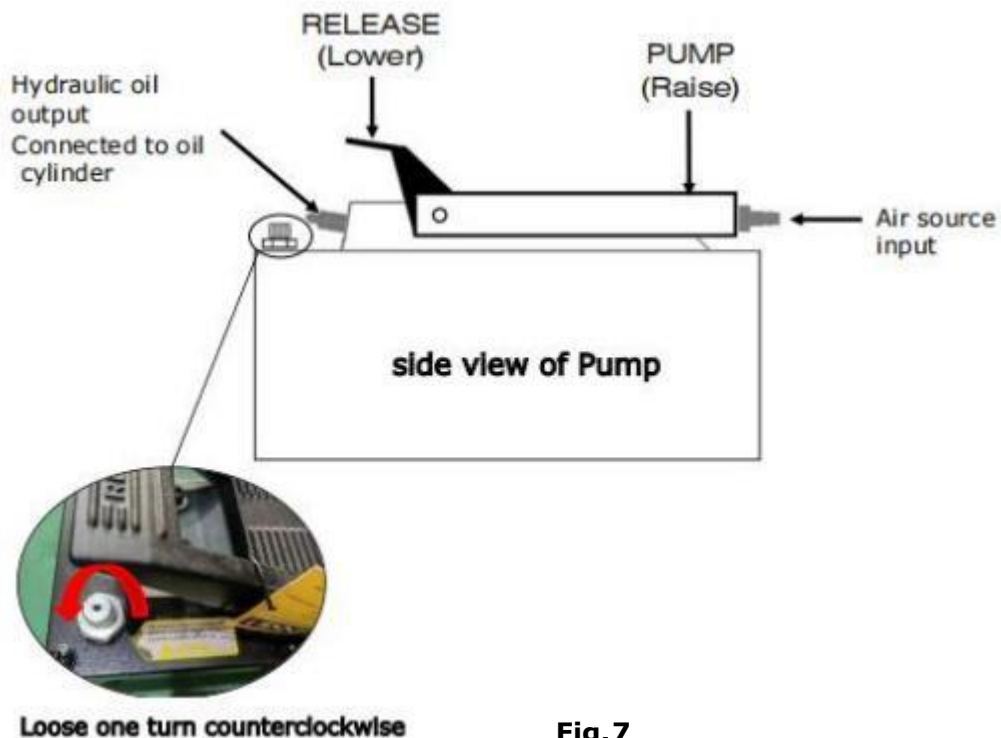

Fig.7
B. Press 'PUMP' shown in Fig 7 to fill air into the oil pump and to raise the Rolling Jack.
C. When the Rolling Jack raises to a suitable work height, press 'RELEASE' shown in Fig 7 until the nearest Safety Lock is engaged. Make sure the safety lock is locked before proceeding with work.
A. Press 'PUMP' showed in Fig 7 to raise the Jack for few seconds till the safety lock device is released.